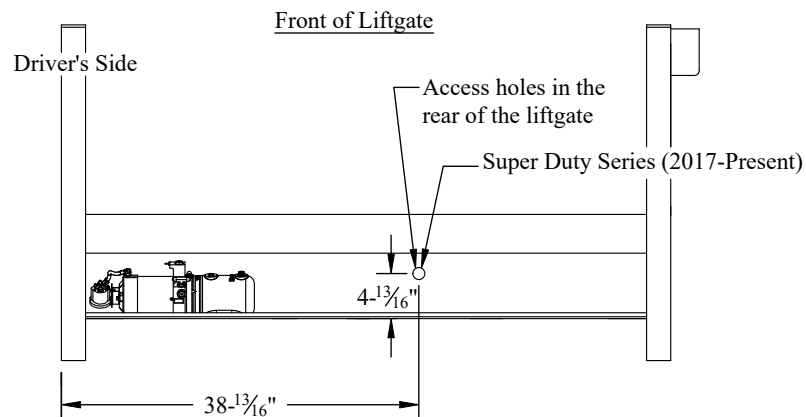

Figure 12: Spare tire access.
2. **Remove and Discard** the black plastic plug from the mainframe in the location shown (Figure 12).